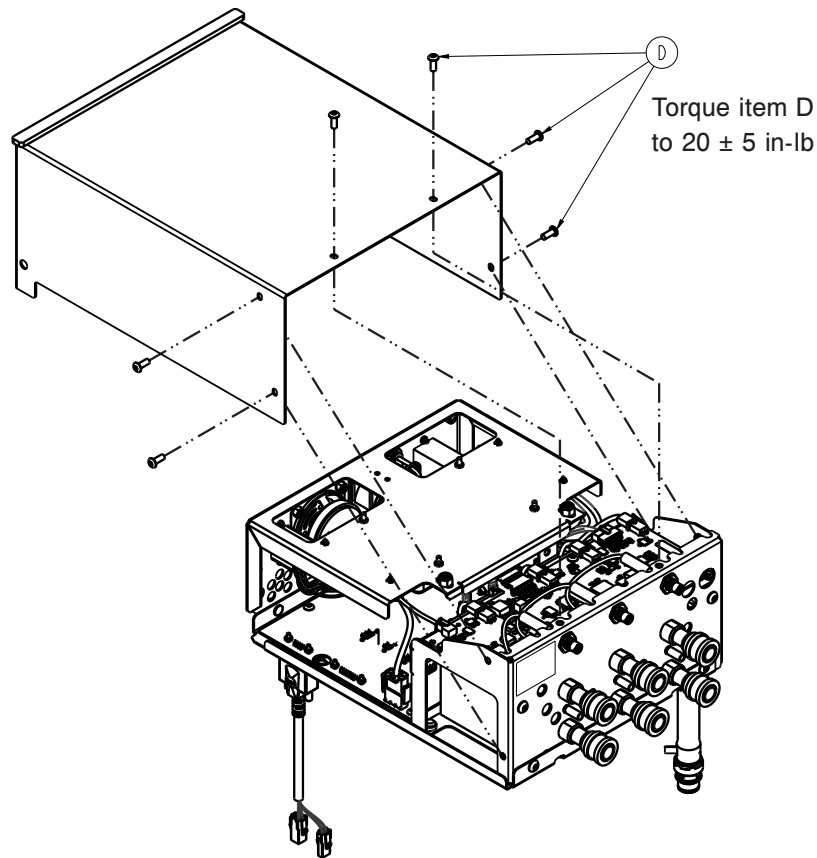

Figure 36 – Control box cover
5. Using a T25 torx, remove the 6 screws (D) that secure the control box cover (Figure 36).